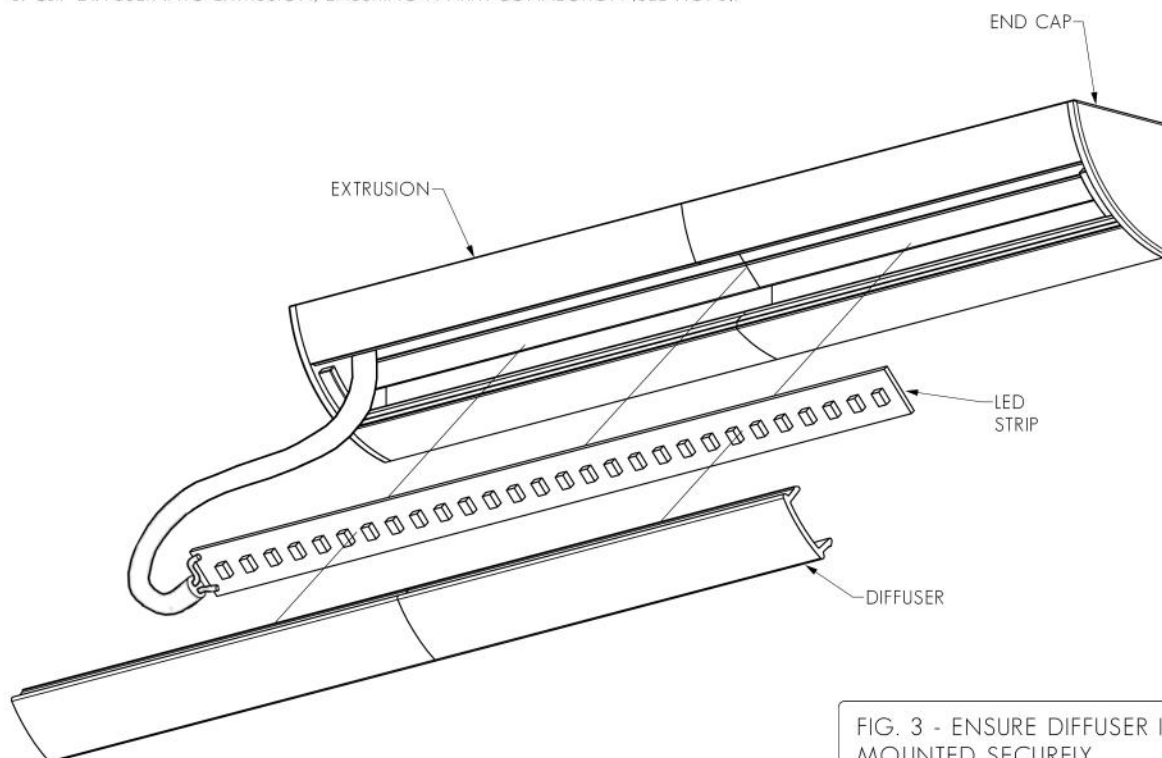

FIG. 3 - ENSURE DIFFUSER IS MOUNTED SECURELY
2. REMOVE BACKING FROM LED STRIP TO EXPOSE STICKY SURFACE. LAY LED STRIP INTO EXTRUSION. SEE FIG. 3 FOR PLACEMENT. USE A DAB OF SILICON AT EACH END OF THE LED STRIP TO PREVENT ENDS FROM LIFTING OFF EXTRUSION.
3. CLIP DIFFUSER INTO EXTRUSION, ENSURING A FIRM CONNECTION (SEE FIG. 3).